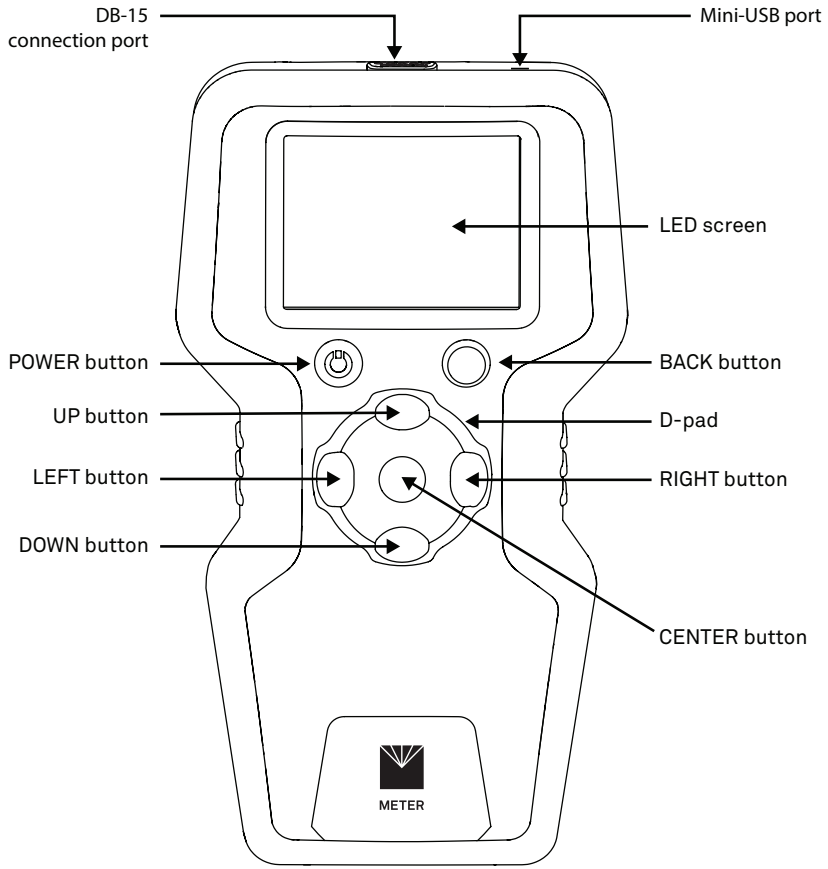

Figure 1 TEMPOS controller
The TEMPOS controller has a **POWER** button, a **BACK** button, and a central D-pad. The **POWER** button (Figure 1) turns the TEMPOS controller on and off. To completely power down the unit, quickly press the **POWER** button and release. For a reboot of the device, push and hold the **POWER** button for 5 s.
Pressing the **BACK** button (Figure 1) moves the cursor back to the previous screen. When it is pressed multiple times, the cursor moves back to the Main menu. Changes are automatically saved.
The D-pad selects configurations or options in the TEMPOS controller (Figure 1).
- The **CENTER** button (Figure 1) serves as the Select or Enter function.
- The **UP**, **DOWN**, **RIGHT**, and **LEFT** buttons (Figure 1) are active when an icon or text on the display screen is highlighted in red. These arrows allow the user to scroll within a field or to select a field before pressing the **CENTER** button.